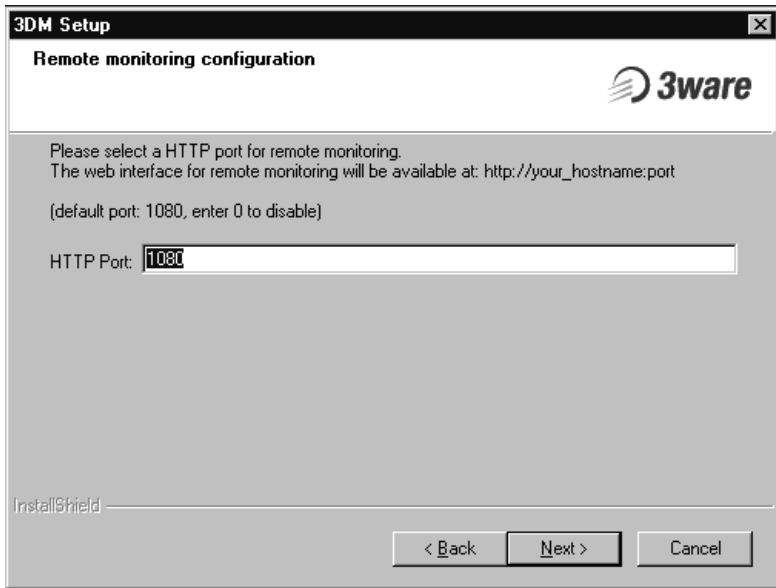

Figure 48. 3DM Remote Monitoring Configuration Display
- 4 At the **Remote Monitoring Configuration** window (see Figure 48), select the HTTP port that you would like 3DM to use. If you do not know what port to use, select the default. If you select port 0, the web interface will be disabled (not recommended).